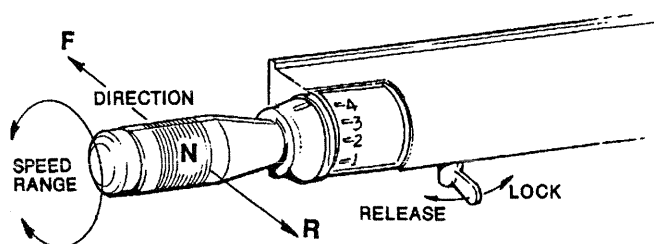

Fig. 3-12 Transmission Control Handle
35. Transmission Control Handle See Fig. 3-12